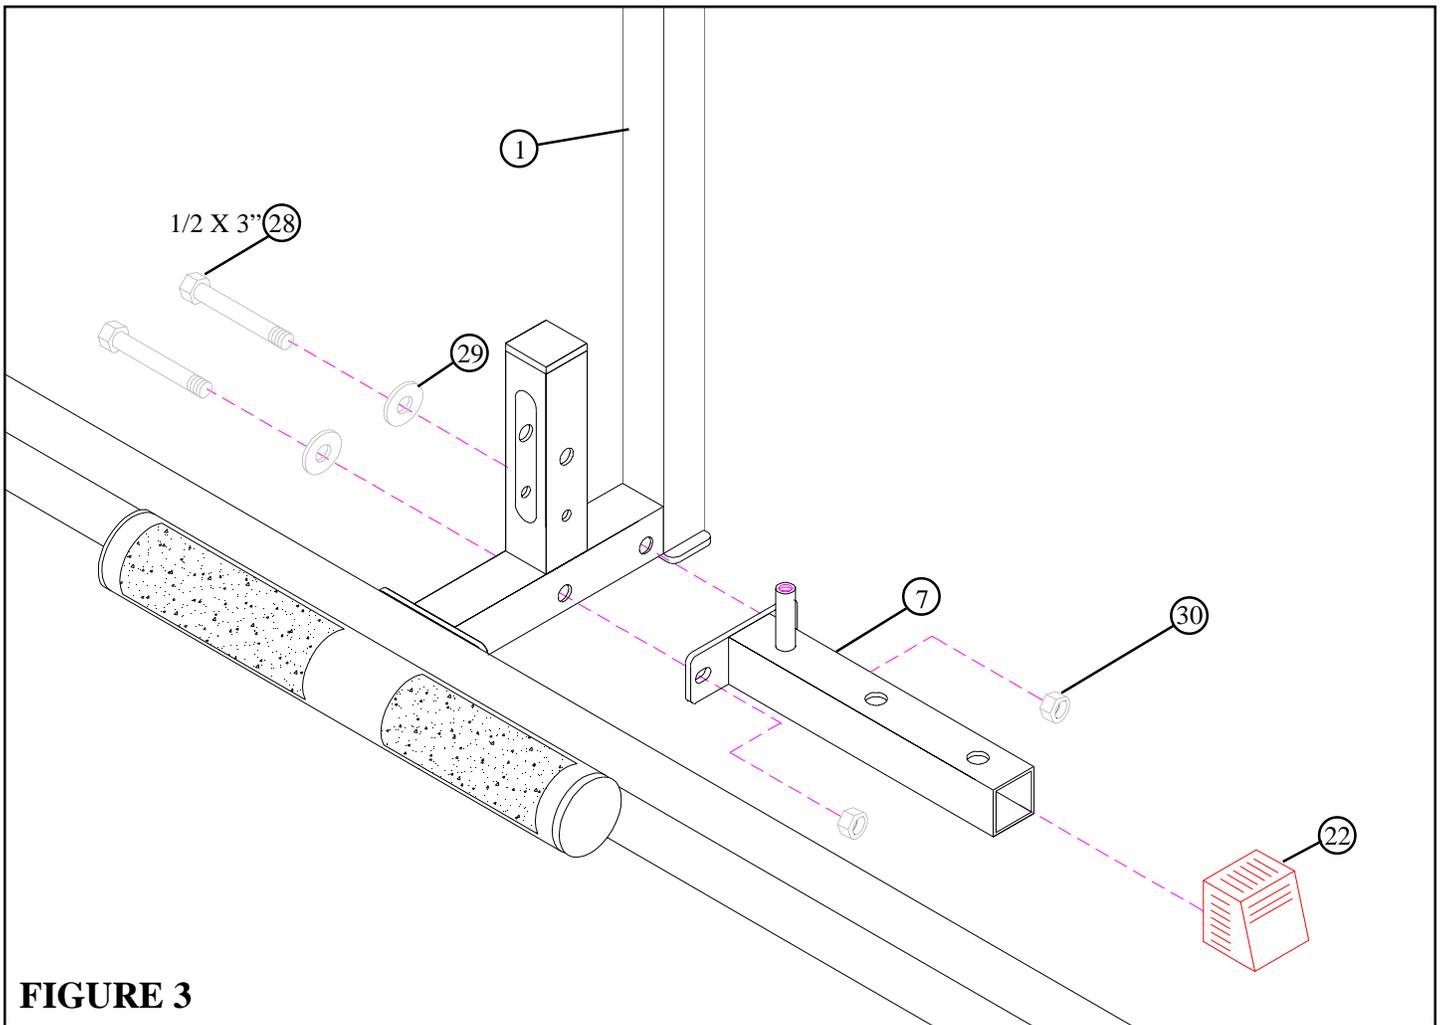

FIGURE 3
- Slide one 2" SQ. COVER CAP (22) over the end of the WEIGHT STACK BASE (7) as shown in FIGURE 3.
- **SECURELY** assemble the WEIGHT STACK BASE (7) to the UPRIGHT (1) using two 1/2 X 3" BOLTS (28), two 1/2" WASHERS (29), and two 1/2" LOCK NUTS (30) as shown in FIGURE 3.